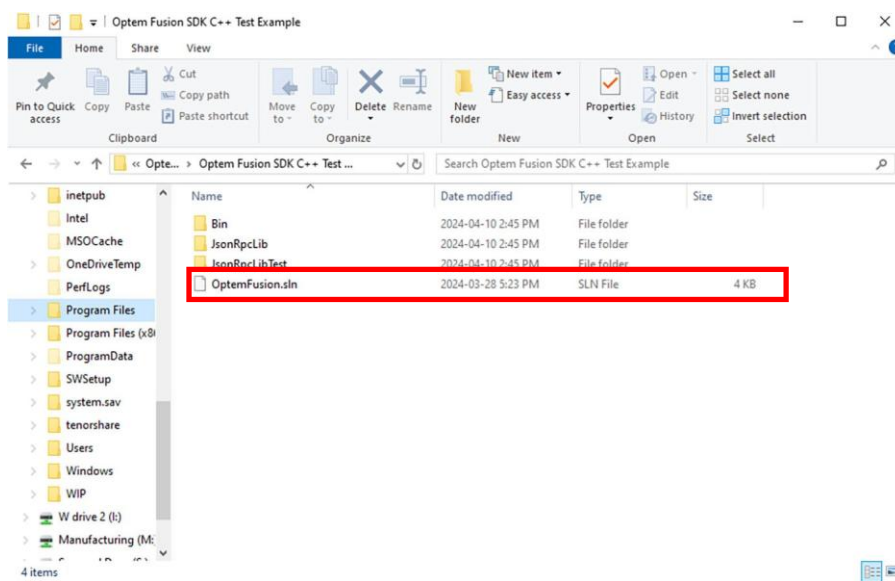

Figure 53 C++ Test Example Folder Contents
3. Double click OptemFusion.sln (outlined in red in Figure 53), to open the solution file.